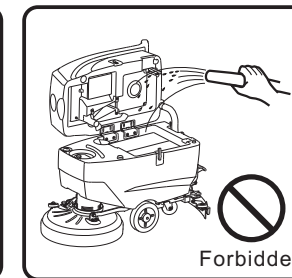

fig.9
- Water pills should be avoid when cleaning the machine itself. Electronic parts inside the control panel are sensitive to water spills and may cause damage in water ingress(fig.9&10).